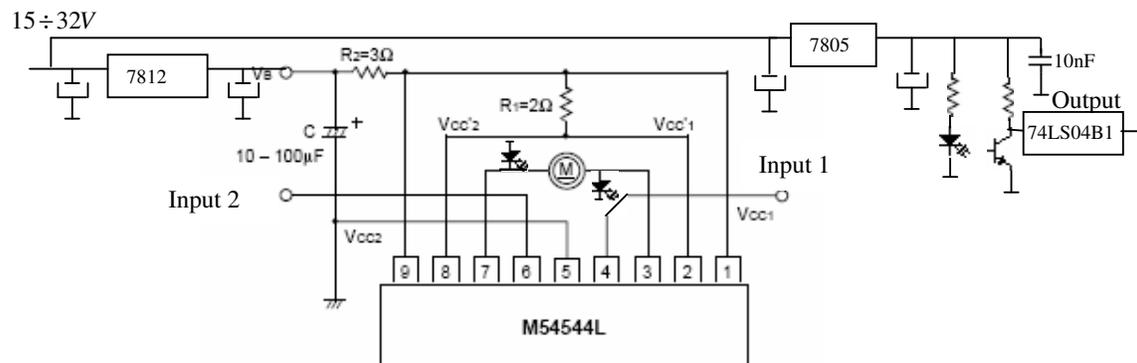

Figure 1. Application scheme
PC parallel port was never designed to provide any output power to devices connected to it (1). Was only designed for connecting printer to the PC, but in time everything change, parallel port have become a port where we can connect a external application. The application presented, figure 1, need 2 commands line (378h) and 1 read line (379h).